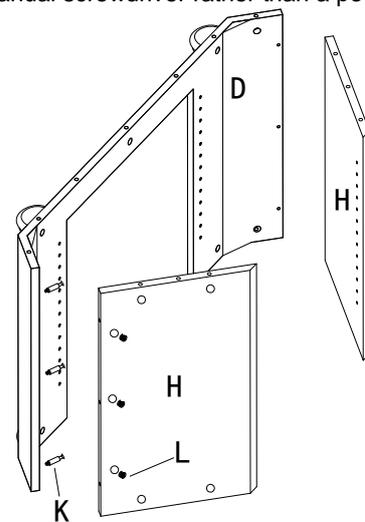

Figure 1
- Put 6 Cam Dowels (K) onto Underside Panel (D), and connect Left & Right Panel (H) with Underside Panel (D). Then put 6 Cam Locks (L) onto Left & Right Panel (H) and fix these Cam Locks (L) with a manual screwdriver. (Figure 1)